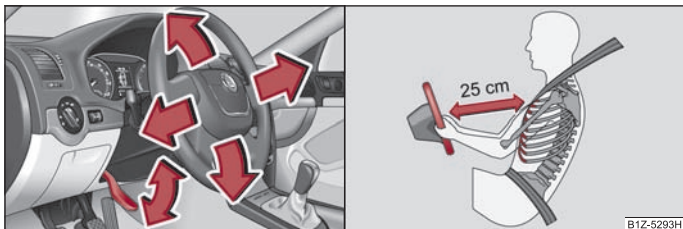

Fig. 111 Adjustable steering wheel: Lever below the steering wheel/safe distance to the steering wheel
- Pull the lever below the steering wheel down ⇒ fig. 111 - left ⇒ ⚠.
- The driver must maintain a distance of at least 25 cm to the steering wheel ⇒ fig. 111 - right. Not maintaining this minimum distance will mean that the airbag system will not be able to properly protect you - hazard!